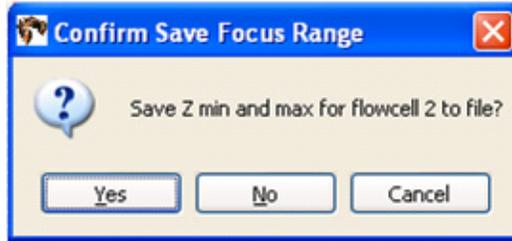

Figure 83 Click **Yes** when the Save Focus Range Warning displays.
11. Click **Yes** when the warning displays (see Figure 83 on page 118).